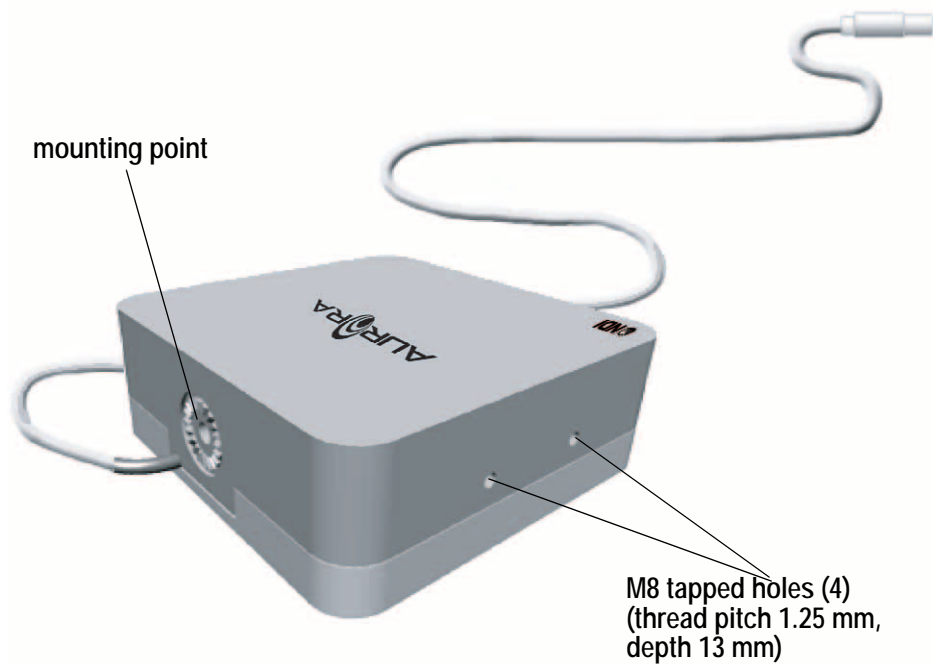
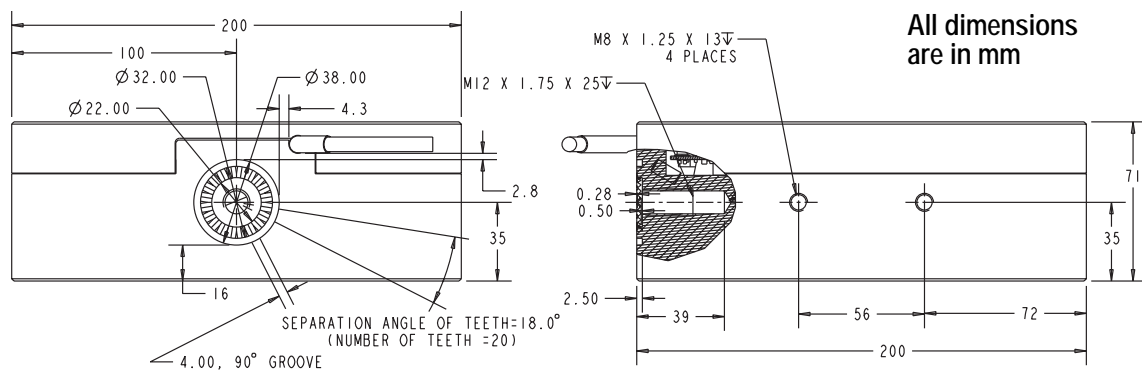

Figure 2-1 Field Generator - Mounting Options
Figure 2-2 Field Generator - Mounting Details
2. Place or mount the Field Generator on a rigid support system that can carry the full weight of the Field Generator and the Field Generator cable (2.8 kg). The support system must also be designed to minimize vibrations, as vibrations may introduce measurement errors. The Field Generator may be mounted in two ways (refer to Figure 2-1 and Figure 2-2):
Note The drawing shown in Figure 2-2 is available for download from the NDI Support Site.